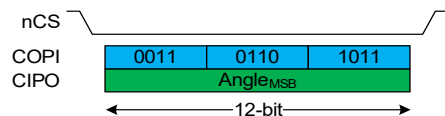

Figure 19: 12 Clock Cycles Read Angle
- 12-bit angle read without CRC4 in 12 clock cycles (Figure 19). In this case too, an eventual communication error will not be detected.